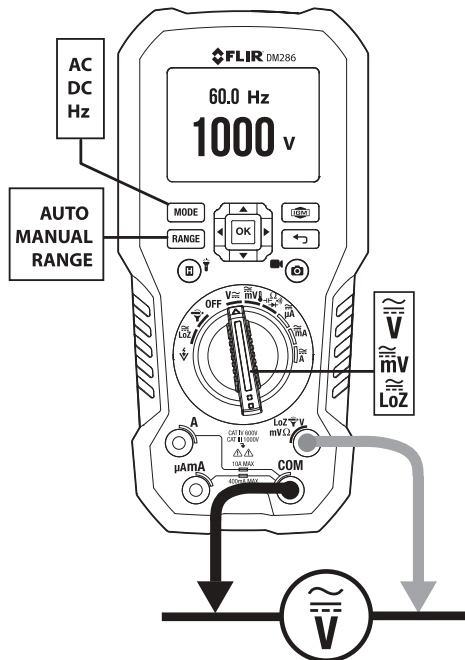

Fig. 9.3 Voltage and Frequency Measurements
1. Set the function switch to one of the following positions. See **Fig. 9.3**.